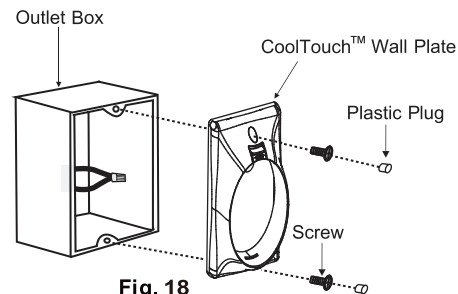

Fig. 18
Step 2. Install the CoolTouch™ wall plate to the existing wall outlet box with 2 screws provided. Insert the two plastic plugs into the wall plate. (Fig. 18)